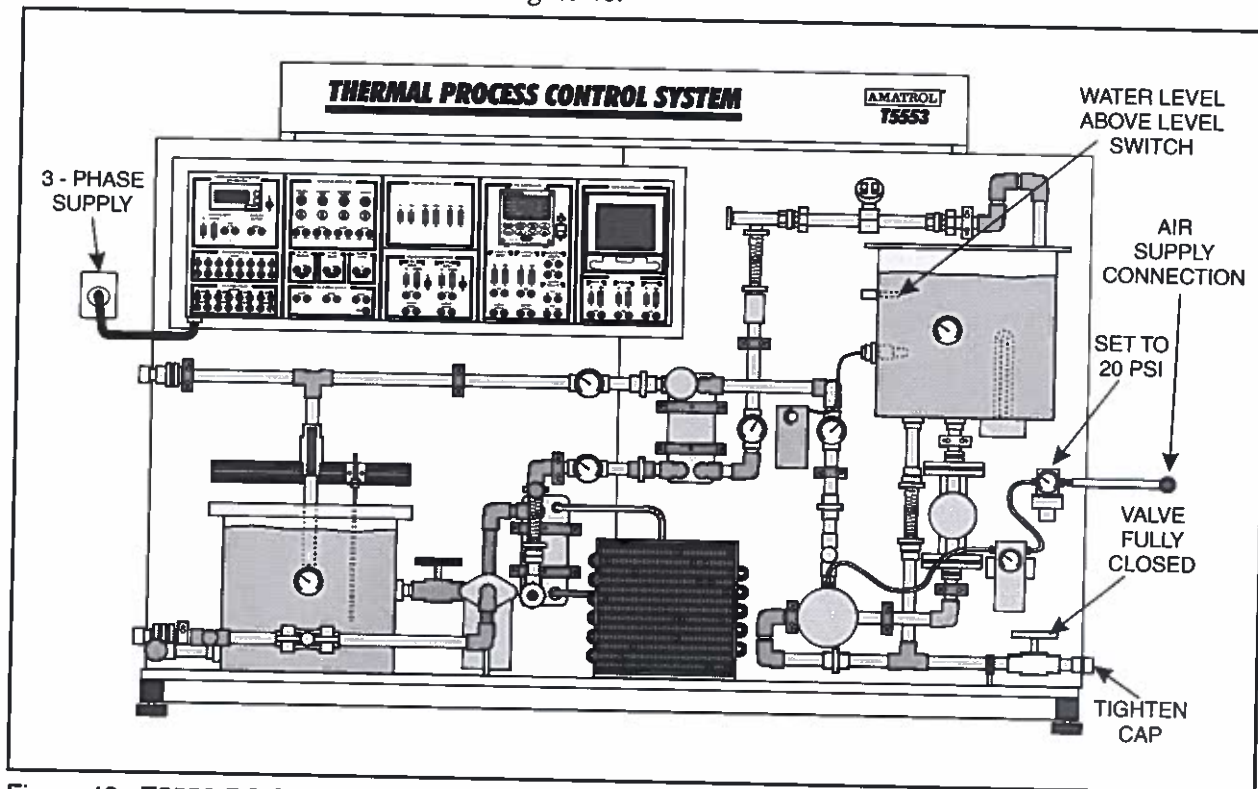

Figure 48. T5553-BC Setup
- ☐ 2. Perform the following substeps to set up the T5553-BC, as shown in figure 48.